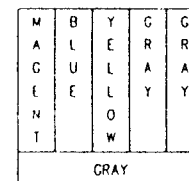

Figure 6-1
- 1) Receive colour bar pattern with colour bar pattern generator (Figure 6-1)